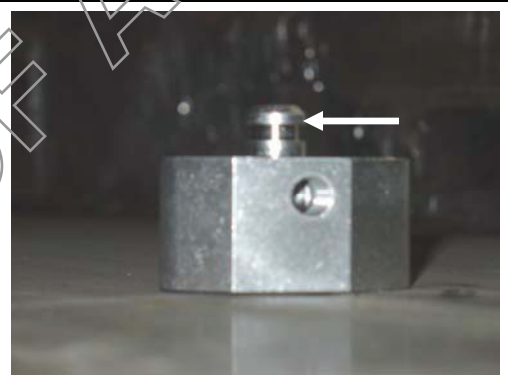

FIGURE 31
51. CAREFULLY slide one of the supplied fuel O-rings (00-1903-C09745*) on the grooved end of the fuel junction block (05-1903-C09489). The O-rings rip easily. **(FIGURE 31)**